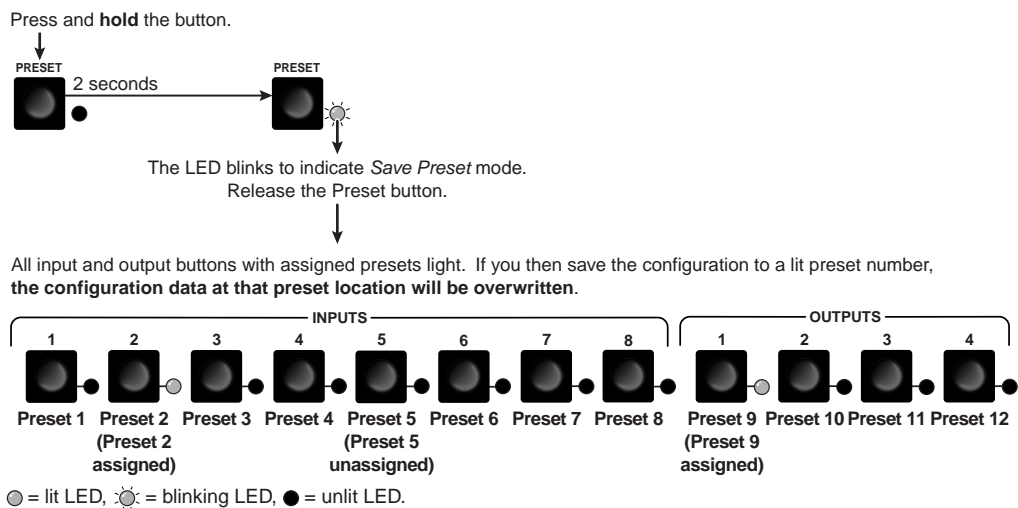

Figure 3-27 — Enter Save Preset mode, MAV 84
1. Press and **hold** the Preset button for approximately 2 seconds until the Preset LED begins blinking (figure 3-27).